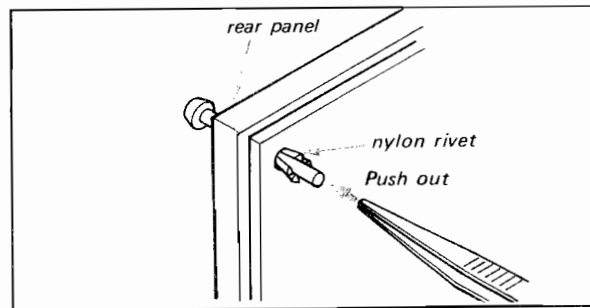

Fig. 2-4.
1. Remove the nylon rivets securing the defective component by pushing its end with a tweezers as shown in Fig. 2-4.